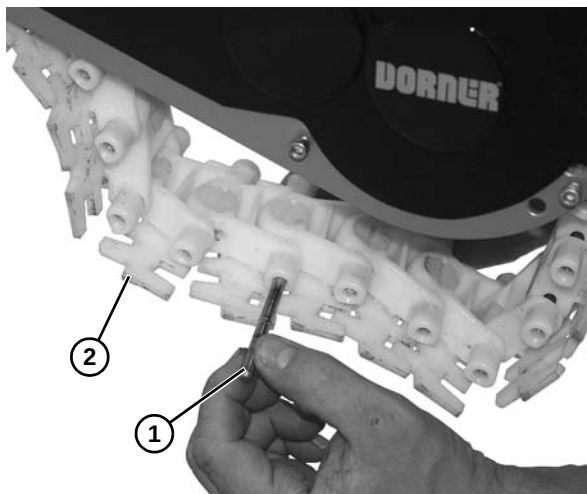

Figure 54
1. Use a punch and hammer or belt removal tool #203480 to push the belt rod (**Figure 54, item 1**) out by striking the rod end.
2. Slide the old belt (**Figure 54, item 2**) off the conveyor frame.